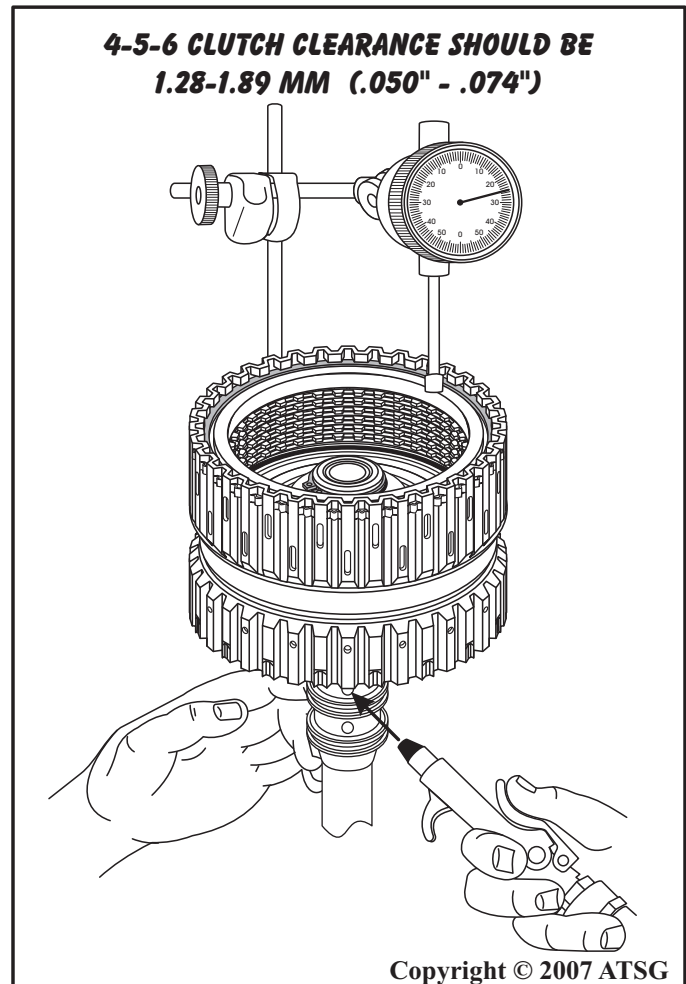

Figure 79
15. Install and zero dial indicator on 4-5-6 clutch housing, as shown in Figure 79.
16. While one finger blocks top passage in turbine shaft, apply regulated air to the opposite top hole and observe dial indicator reading, as shown in Figure 79.